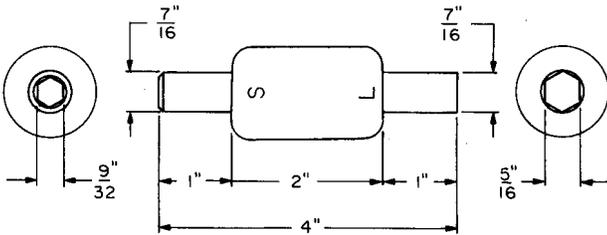

Fig. 4—110 Hex, Double-End Socket Wrench
2.04 **110:** The 110 tool (Fig. 4) is equipped with a 9/32-inch socket on the "S" end and a 5/16-inch socket on the "L" end. The wrench is used on duplex motors.